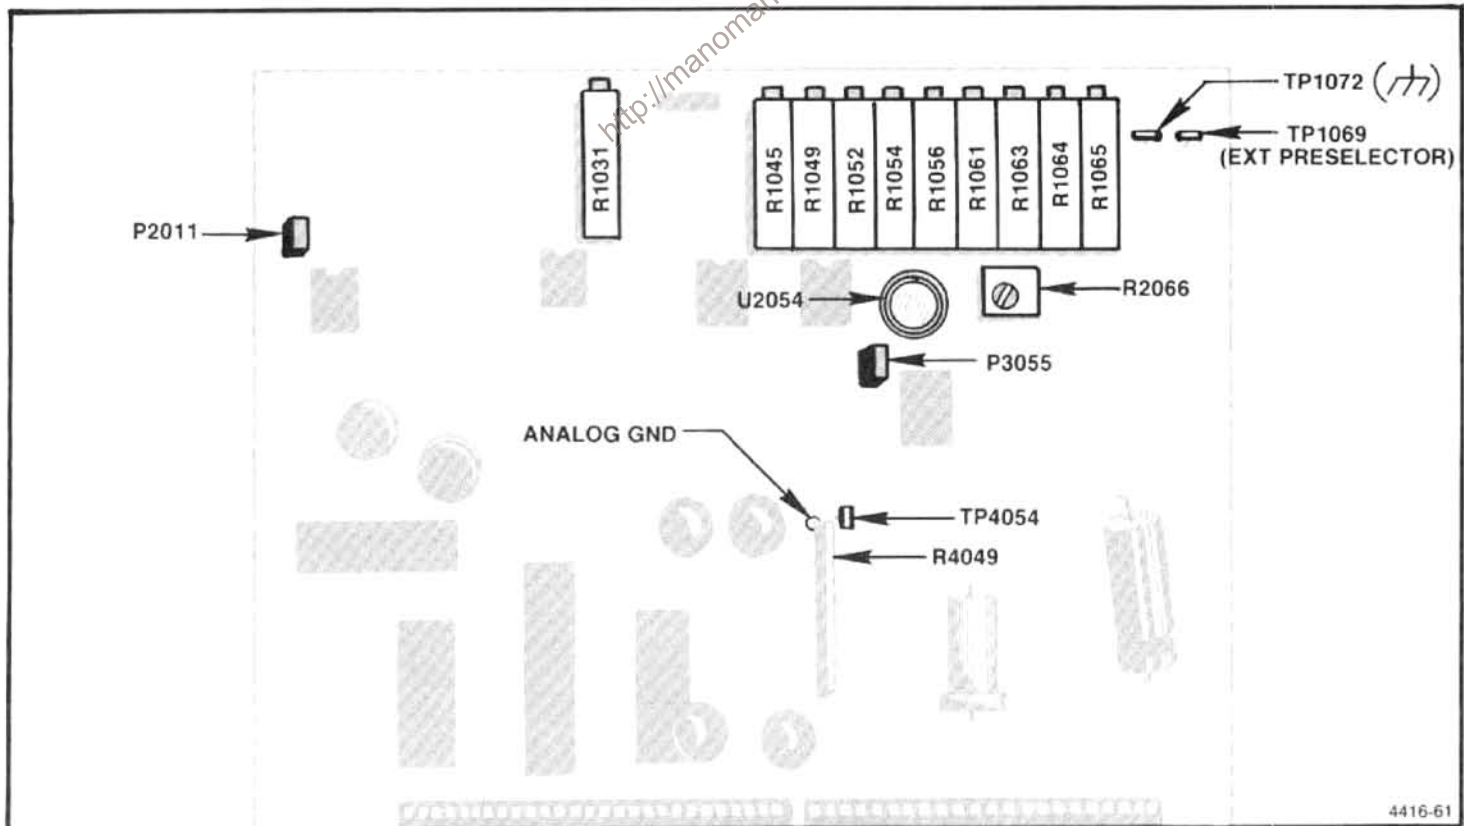

Figure 5-26. Preselector Driver adjustment and test points.
b. Set the offset for driver U2054 as follows: (Offset should only require adjusting if U2054 is changed.) Switch POWER off, pull the Preselector Driver board and install on extender board (Figure 5-26) then switch POWER on.
(1) Set the FREQUENCY RANGE to band 1 (0-1.8 GHz);
(2) Pull P3055 and connect a DVM between TP4054 and analog ground (Figure 5-26). Set the voltmeter range to 30 Ω V or less;
(3) Starting from a fully counterclockwise position, adjust Driver Offset R2066 (Figure 5-26) for 0 V at TP4054;
- (4) Disconnect the DVM, replace P3055, then switch POWER off and reinstall the Preselector Driver board. Switch POWER on.
- d. Apply the CAL OUT signal to the RF INPUT. Set the REF LEVEL to -30 dBm, FREQ SPAN/DIV to 20 MHz and activate AUTO RESOLN. Select the 1.7-5.5 GHz FREQUENCY RANGE and adjust the CENTER FREQUENCY to center the 2.1 GHz marker. Center the Input Offset adjustment R1031 (Figure 5-26) then center the 2.1 GHz marker with the CENTER FREQUENCY control.
- f. Peak the 2.1 GHz signal with the -829 MHz IF Offset R1049 (Figure 5-26)
- m. Increase FREQUENCY to the 12 GHz marker, then peak the 12 GHz point with Shaper #1 R1054 adjustment (Figure 5-26).
- t. Adjust -829 MHz IF Offset R1049 (Figure 5-26) to peak the 3.5 GHz response.
- w. Tune the 19 GHz marker to center screen then peak the 19 GHz signal with Shaper #3 R1061 adjustment (Figure 5-26).